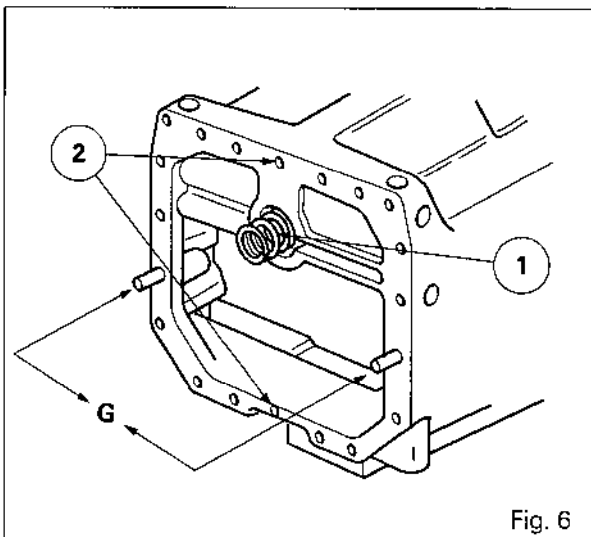

Fig. 6
24. Check that the spring (1) is in place in the power take-off clutch and that the locating pins (2) are fitted (Fig. 6).
27. Screw the two guide studs 'G' on the housing (Fig. 6).